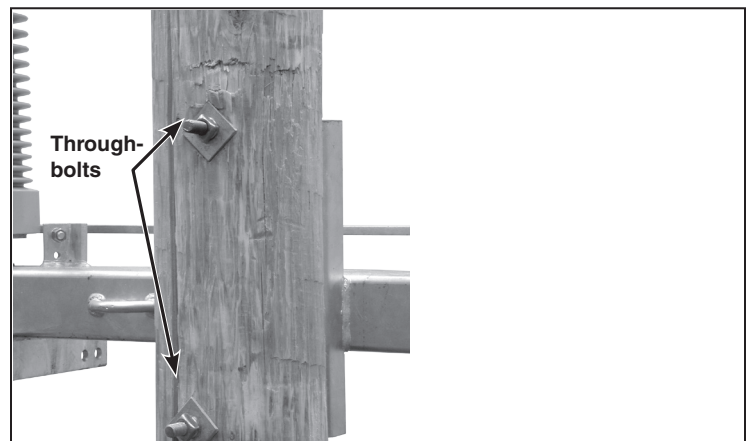

Figure 9. Engage the switch mounting bracket with the keyhole slot and mounting notch, and tighten the bolts.
STEP 7. Slowly lower the switch until it just bears on the through-bolts. Fully tighten the bolts. See Figure 9. Remove the lifting slings.